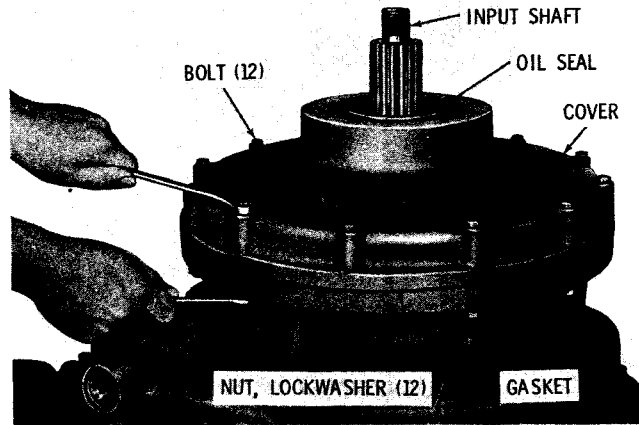

Fig. 7-38. Installing transmission front cover bolts
(2) Install a new oil seal into the transmission front cover (fig. 7-38). Prepare the oil seal as described in paragraph 4-6f. Press the oil seal, spring-loaded lip first, into the front of the cover. Locate the front
(3) Install the gasket and transmission front cover, and retain it with twelve 3/8-24 x 3-3/4-inch bolts, lockwashers, and nuts (fig. 7-38). Tighten the nuts to 31-37 lb ft (43-50 N·m).